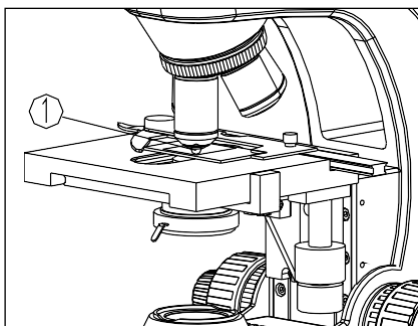

Fig.16
2. Place a drop of oil (1) on the specimen (see Fig. 16).